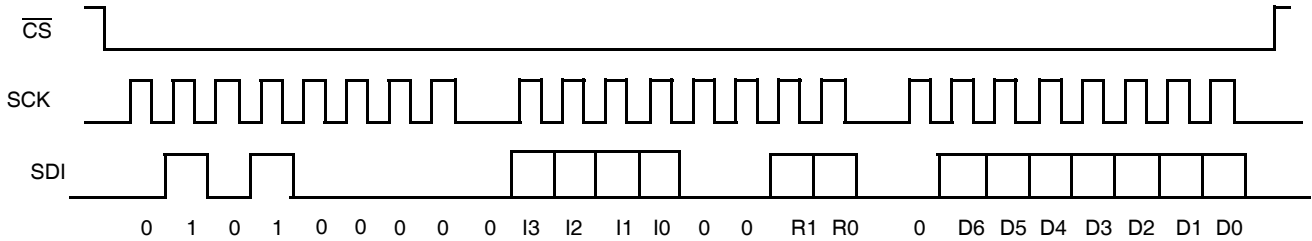

FIGURE 12. THREE BYTE WRITE SEQUENCE
A Write operation to the ISL22419 is a three-byte operation. It requires first, the $\overline{\text{CS}}$ transition from HIGH to LOW, then a valid Identification Byte, then a valid instruction byte followed by Data Byte is sent to SDI pin. The host terminates the write operation by pulling the $\overline{\text{CS}}$ pin from LOW to HIGH. For a write to address 0 (WR), the byte at address 2 (ACR[7]) determines if the Data Byte is to be written to volatile or both volatile and non-volatile registers. Refer to "Memory Description" and Figure 12.